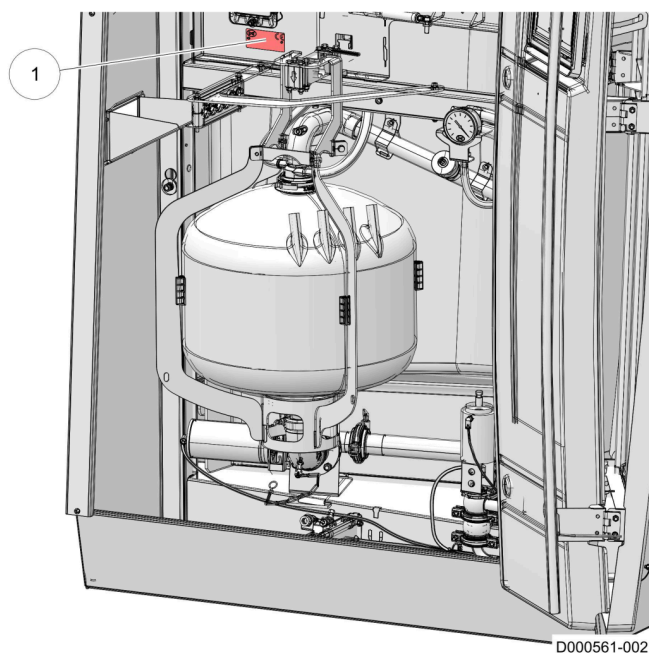

Figure 2. Location type and serial number plate robot unit
- In the robot control room above the beam of the milk jar (see figure 2 on page 9).